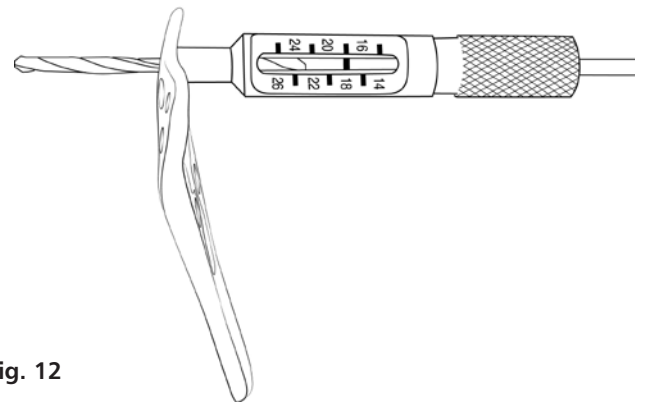

Fig. 12
16. Remove the first K-wire. Using the 2.0mm fast read drill (DH0448CE) and drill guide (DH0451CE), or 1.6mm fast read drill (DH0471CE) and drill guide (DH0470CE), drill into the cortex inside the plate's distal hole, keeping in mind the screw should stop short of penetrating the opposite (dorsal) cortex. Measure the appropriate length of screw (**Fig. 12**).